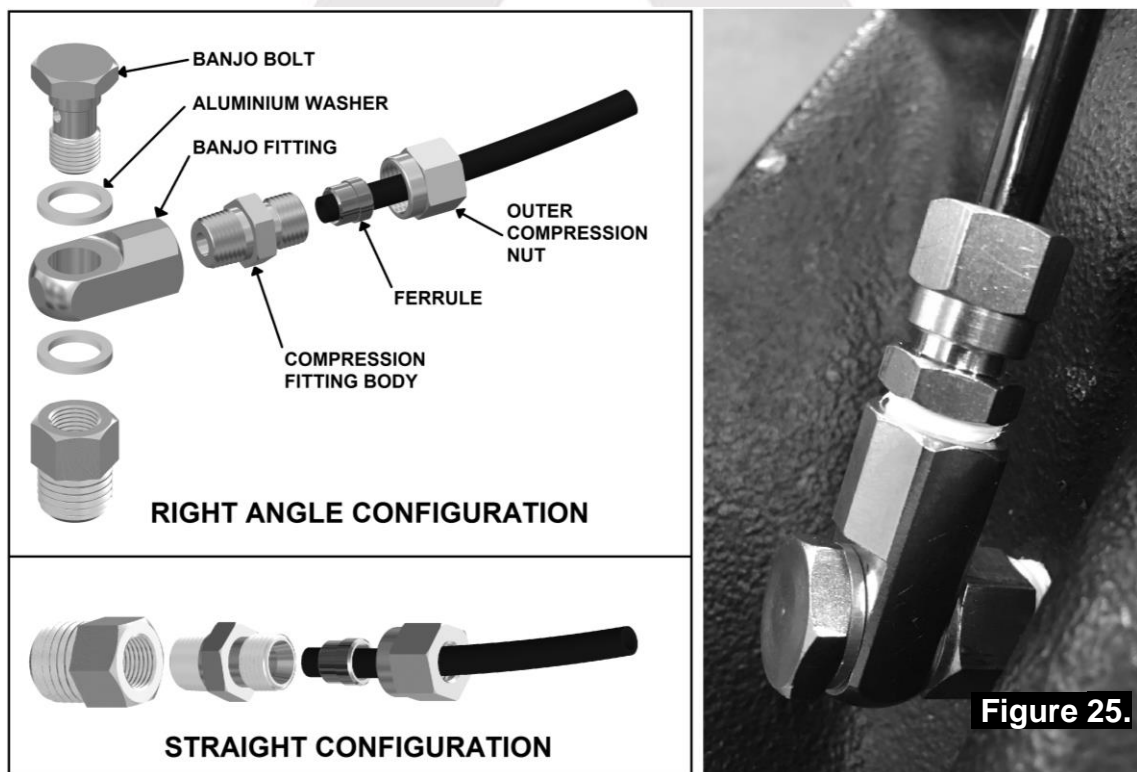

Figure 25.
- Assemble an aluminium washer onto the banjo bolt and insert through the banjo fitting. Assemble second aluminium washer and tighten into bulkhead fitting using a 14mm [9/16"] spanner. (Fig.25.)
NOTE : When right angle routing of the tube is not required, screw the compression fitting body straight into the bulkhead fitting body (Fig.25.).